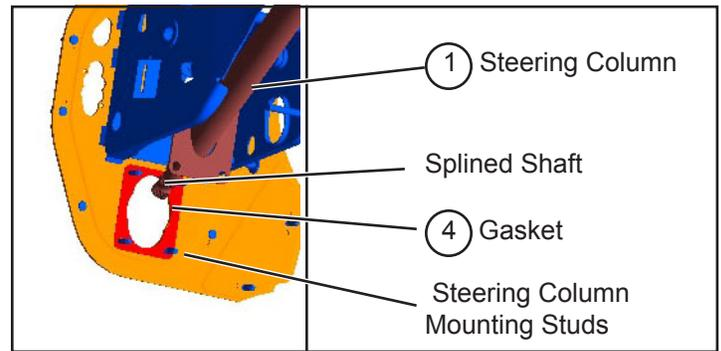
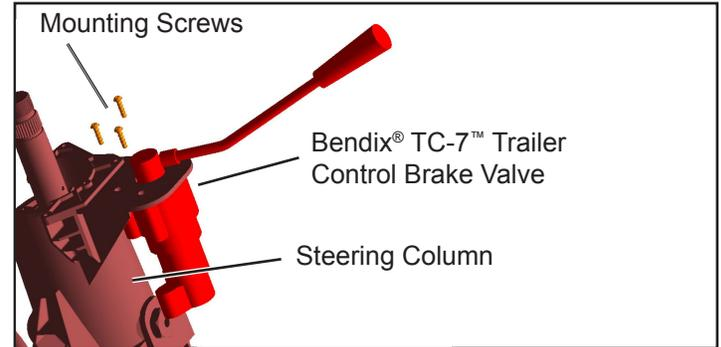

Figure 12 Steering Column Installation
Figure 13 TC-7 Trailer Control Valve Installation
1. Position the gasket (4) on the four steering column mounting studs that are secured to the firewall.
2. Align the steering column (1) with the opening in the firewall. Using extreme caution, align the steering column splined shaft with the mating coupling. *Refer to Figure 12.*
3. Loosely install the four 8mm flange nuts (3) that secure the steering column to the firewall and the four 5/16" screws (2) that secure the steering column to the support bracket.
4. For tilt column kit piece numbers 5008674 and K114457, tighten the four 5/16" screws (2) to 240–350 in-lbs. For the fixed column kit piece number 5014291, tighten the 5/16" screws (2) to 120–150 in-lbs. Tighten the four 8mm flange nuts (3) to 200–280 in-lbs.
6. As shown in Figure 13, install the Bendix® TC-7™ trailer control valve using the three screws removed during the disassembly, tighten to 30–40 in-lbs. Reconnect the air lines. Push the fitting in, towards the valve and insert the air line. When the air line can't be inserted further, pull back on the fitting to secure.